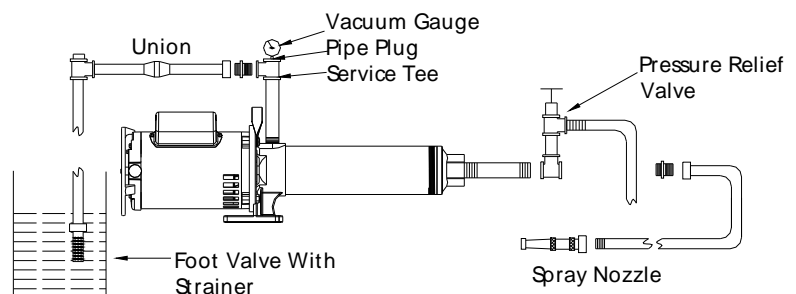

Figure 10
The following applies when pumping from a well, cistern, pond or cleaning solution container (See Figure 10 on page 8).
On suction lift applications (See Figure 10 on page 8) prime the unit as follows:
4. Start the pump and run no longer than two (2) minutes. Unit should pump water. If not, repeat the sequence above.
**NOTE:** On first use of pump, it may be necessary to re-prime the unit three (3) or four (4) times before all air is out of the suction pipe.
5. The vacuum gauge installed in the inlet pipe should never read over 10 inches of vacuum. Otherwise pump failure may result (See Figure 10 on page 8).